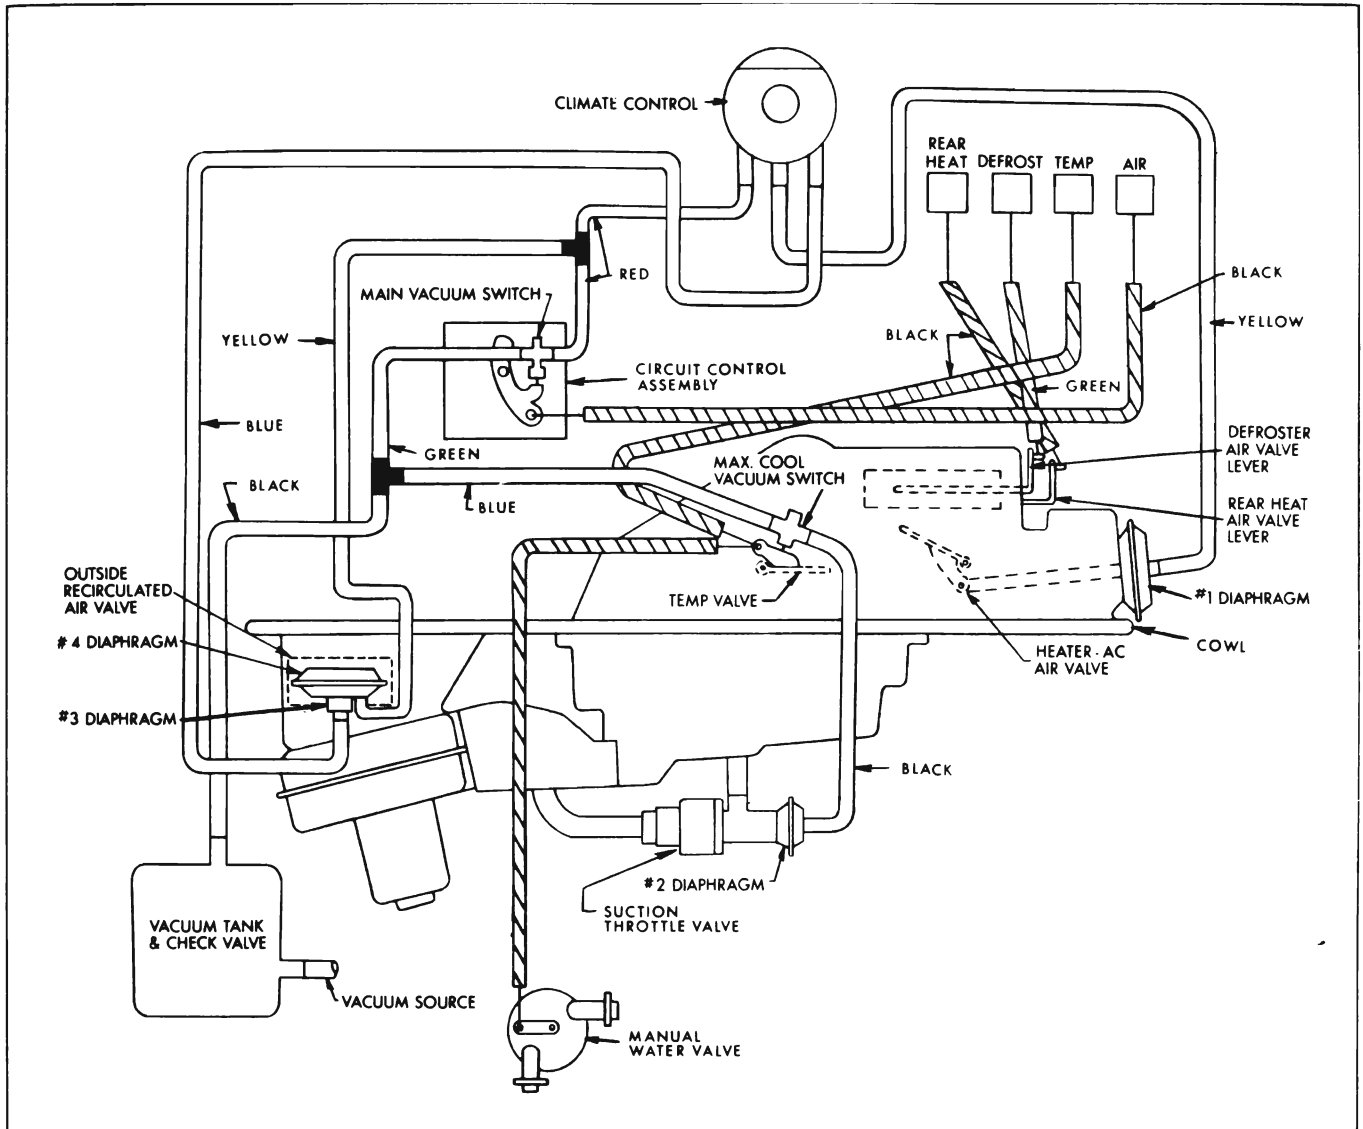

Figure 11-66—Schematic of 4400, 4600 and 4800 Controls
case. See Figure 11-66. Included in the circuit control assembly is an electrical circuit switch, blower switch and the main vacuum switch. The "Air" lever wire operates the blower switch through five detent positions. For air conditioner operation the five positions are, OFF, LOW-LOW, LOW, MEDIUM and HIGH. For heater and ventilation operations, the positions become off, Ram air (blower off and car moving), Low-Low, Low and Medium.
The Temp lever wire attaches to the temperature valve. See Figure 11-66. Located at the temperature valve is the max. cooling vacuum switch which controls the vacuum to the suction throttle valve. Also, a second wire connects from the temperature valve to the manual water valve. First movement of the "Temp" lever from off, opens the water valve to allow water flow through the heater core, positions the temperature valve to allow some air to pass through heater core and closes the vacuum switch to set the suction throttle valve at its minimum cooling position. Further movement of the lever only positions the temperature valve to allow more air to pass through the heater core.
1. A combination outside-recirculated air valve is located on blower and air inlet assembly. See Figure 11-66 and 11-67. This air valve is operated by dual control #3 and #4 vacuum diaphragm.
Two vacuum switches are used. See Figure 11-66. The main vacuum switch which is operated by the "Air" lever and located on the circuit control assembly is open (allows vacuum to pass through) when its plunger is fully released. The max. cooling vacuum switch which is operated by the "Temp" wire is open when its plunger is fully depressed. The two vacuum switches must not be interchanged. When the vacuum switches are off or closed, they allow the vacuum in the diaphragm to be exhausted or vented through them so that the air valve will return to the off position.
Note: If the vacuum hoses are properly attached (Figure 11-66 and 11-71) and lever control wires properly adjusted (Par. 11-17 Subpar. d) complaint maybe caused by the items listed on this chart.